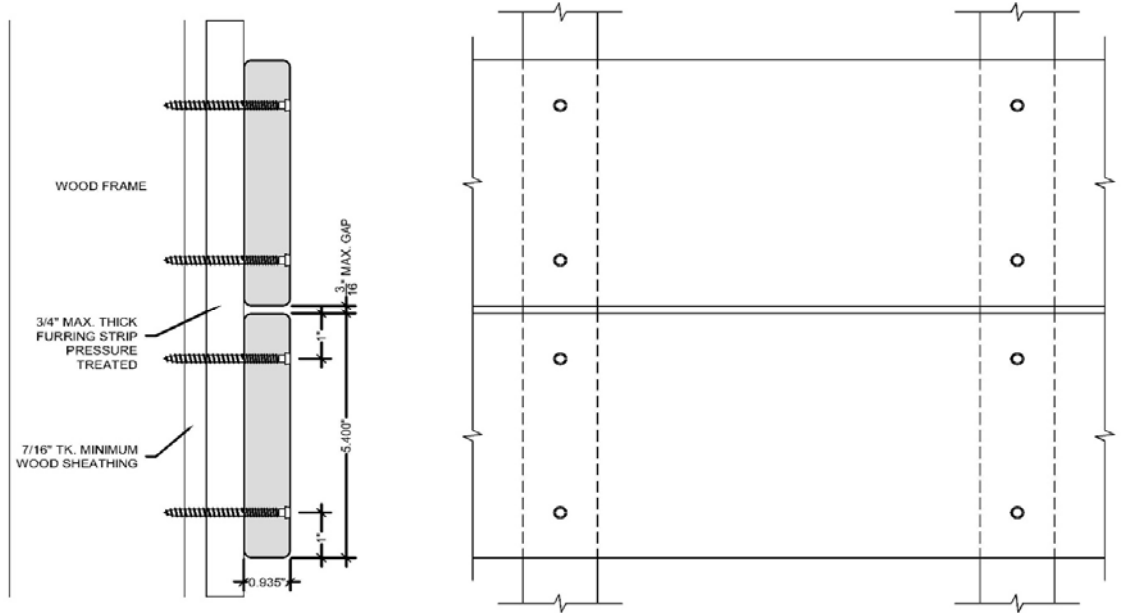

Figure 5 - Fastening Illustration only-Horizontal Application
- The product can be installed horizontally or vertically with a maximum gap of 3/16" between pieces and is attached by face screws. Approved fasteners are #9 x 2-1/2-in long composite deck screws with two (2) screws located at 16" o.c. See Figures 5 & 6 of this **PER** for fastening details.
- Furring strips are used between the sheathing and cladding. See Figures 5 & 6 of this **PER** for fastening details.